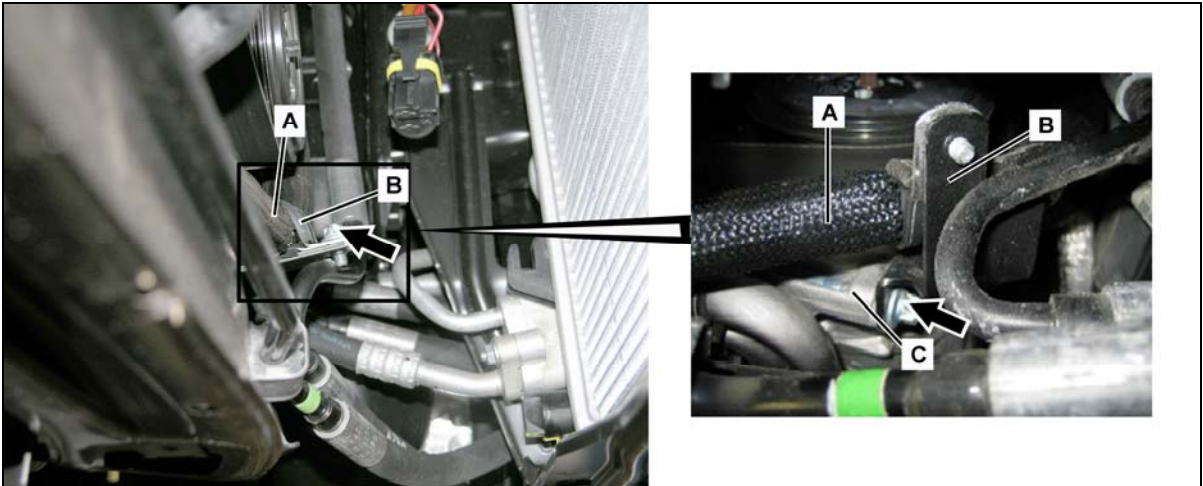

Figure 3
5. Detach steering line (A, Figure 3) from ABC high-pressure line bracket (B).
6. Detach ABC high-pressure line bracket (B, Figure 3) from refrigerant compressor (C).